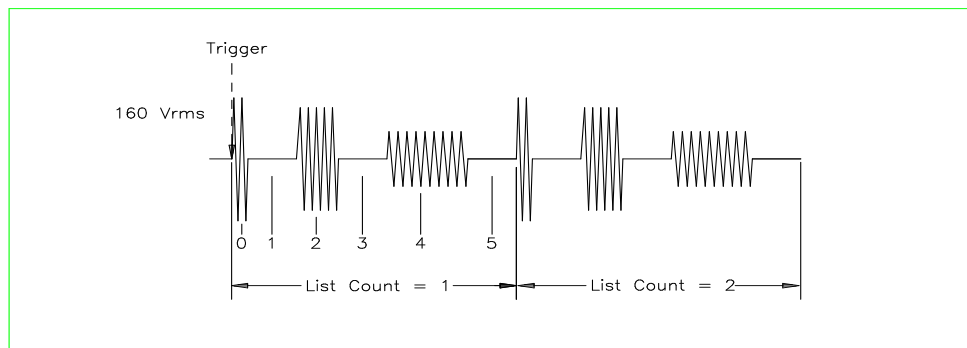

Figure 4-44: List Transients
- 13) Move the cursor to the END DELAY field and enter 0.067 for a interval delay of 67 ms. Notice that we effectively combined steps 0 and 1 from Figure 4-44 into a single list event.
- 21) Move the cursor to the START field and press the ENTER key. The transient program you just created will execute two times. If you have an oscilloscope connected to the output, you may be able to see the output voltage change per Figure 4-44.